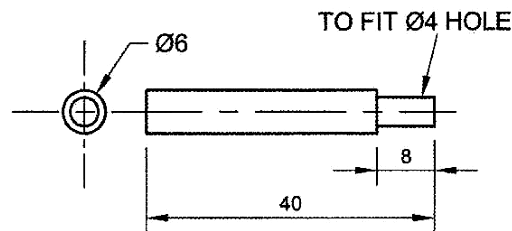

FIGURE 2
- 5** One piece  $\varnothing 6 \times 40$ mm long, turned as shown in **Figure 2**.